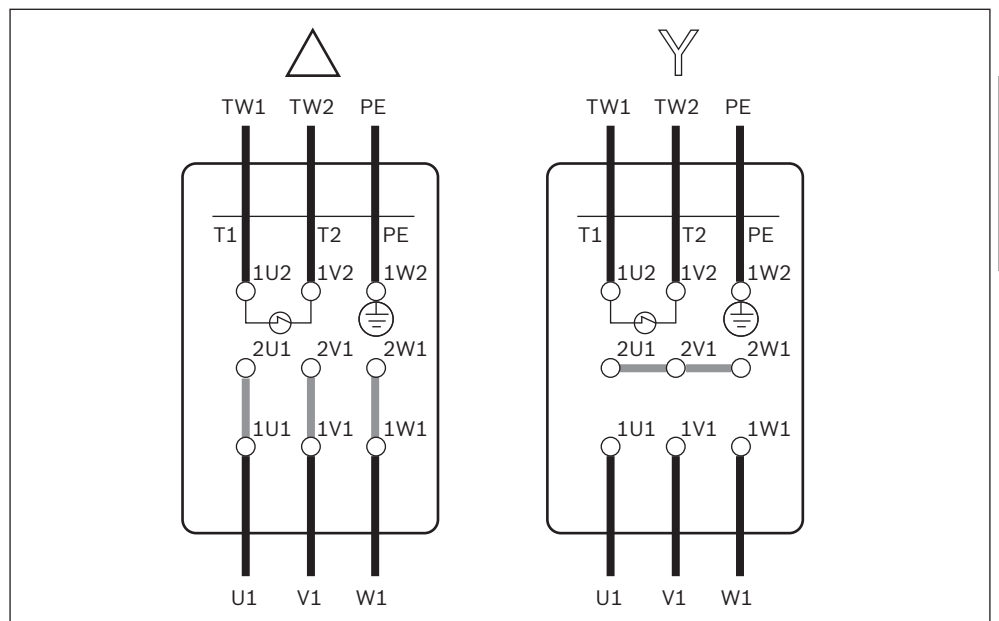

Fig. 10: Delta/ye wiring diagrams
- Connect the motor in either a wye or a delta configuration in accordance with the wiring diagrams, see Fig. 10 on page 11, and the wiring diagram in the terminal box.
- Switch any two wires (U1, V1 or W1, see Fig. 10 on page 11) to change the motor's rotational direction.